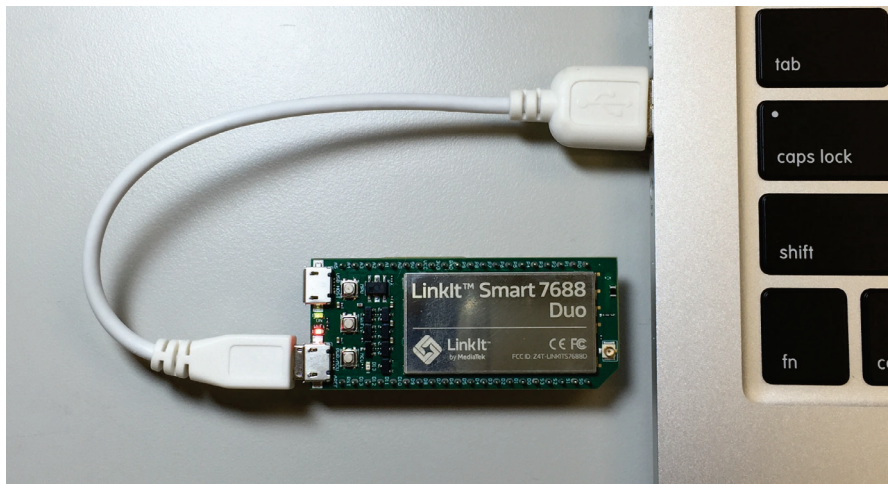

Figure 11 Connecting LinkIt Smart 7688 to a computer
- 1) Power on LinkIt Smart 7688 by using any USB power source, for example your computer and a Micro USB cable as shown in Figure 11.